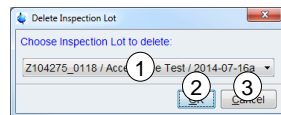

Figure 5-26: Delete Inspection Lot – choose Inspection Lot
### Delete Inspection Lot Dialog (Figure 5-26)
- (1) In the dialog (Figure 5-26) select the Inspection Lot (1) to delete.
- (2) Click **OK** (2) to continue to delete the Inspection Lot.
- (3) Click **Cancel** (3) to abort deleting an Inspection Lot.